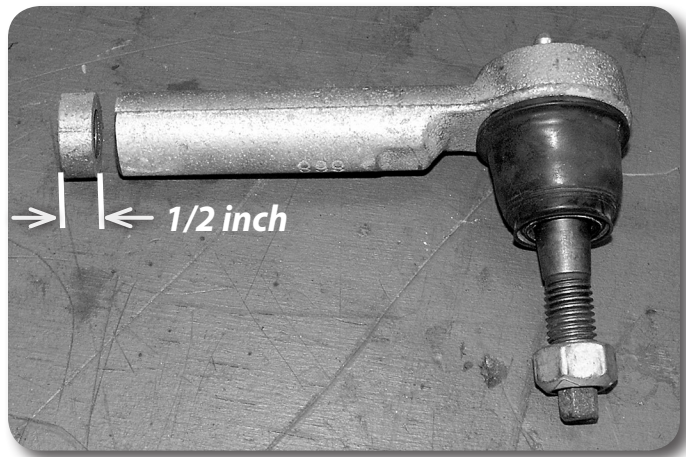

Figure 25A
47. Working on one side at a time, remove the tie rod end from the steering link **Figure 24**. Trim 1/2" off of both the tie rod end and the steering link **Figure 25A & B**. This will allow for proper alignment adjustment once the kit is complete. Once the two pieces are trimmed, clean the ends of the threads and reinstall the tie rod end on the steering link. Repeat on other side of the vehicle.